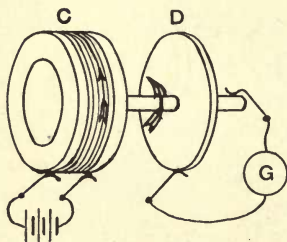

FIG. 13.
14. C is a stationary coil of wire carrying a steady current, as shown by the arrow (Fig. 13), and D is a disc rotating about an axis which is also the axis of the coil. If there are sliding